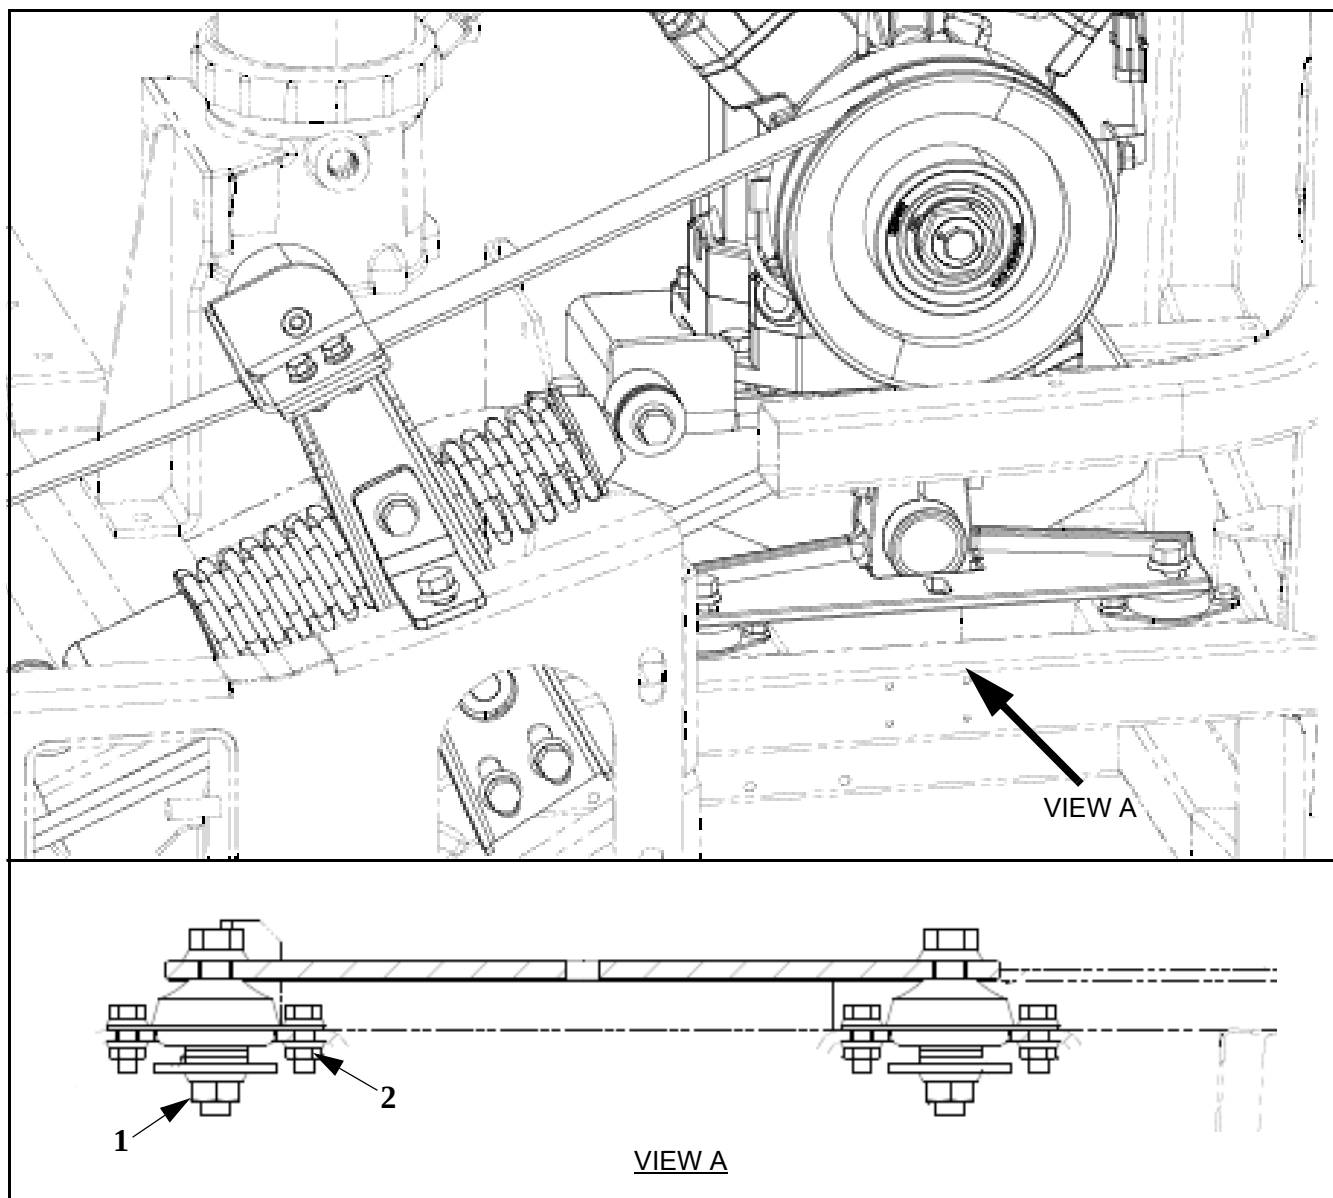

Figure 36. A/C compressor pivot plate installation.
91. Re-orient the A/C compressor pivot plate into position. Using the existing mounting hardware, re-install the A/C compressor pivot plate as shown in Figure 36.
Item	Figure 36 Description